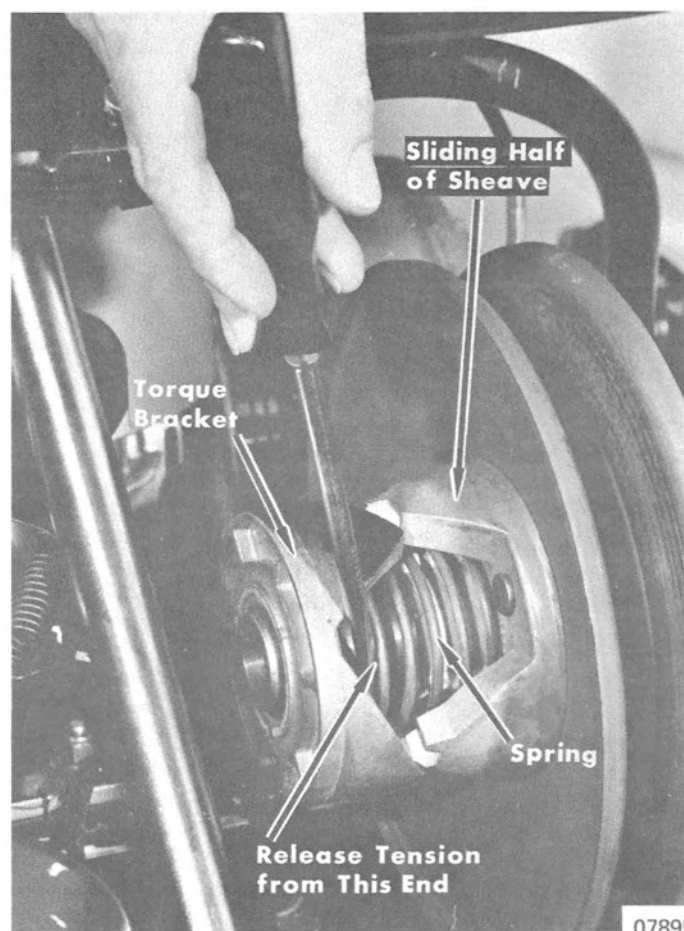

**Figure 1. Removing Sheave Retaining Cap Screw**
3. Hold snowmobile brake and remove driven sheave retaining cap screw. (Figure 1)